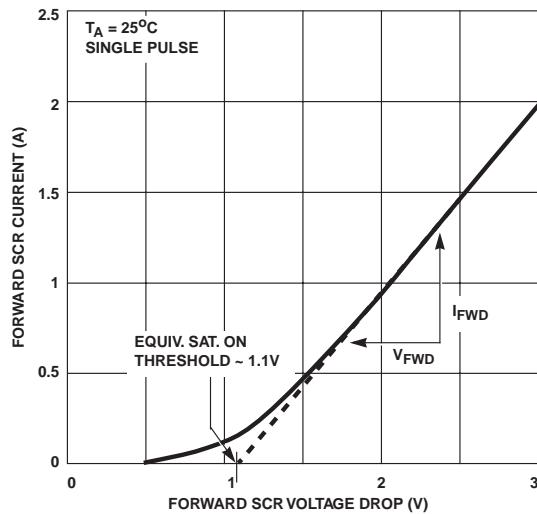

FIGURE 3. HIGH CURRENT SCR FORWARD VOLTAGE DROP CURVE
- Refer to the Figure 3 graph for definitions of equivalent "SCR ON Threshold" and "SCR ON Resistance". These characteristics are given here for thumb-rule information to determine peak current and dissipation under EOS conditions.